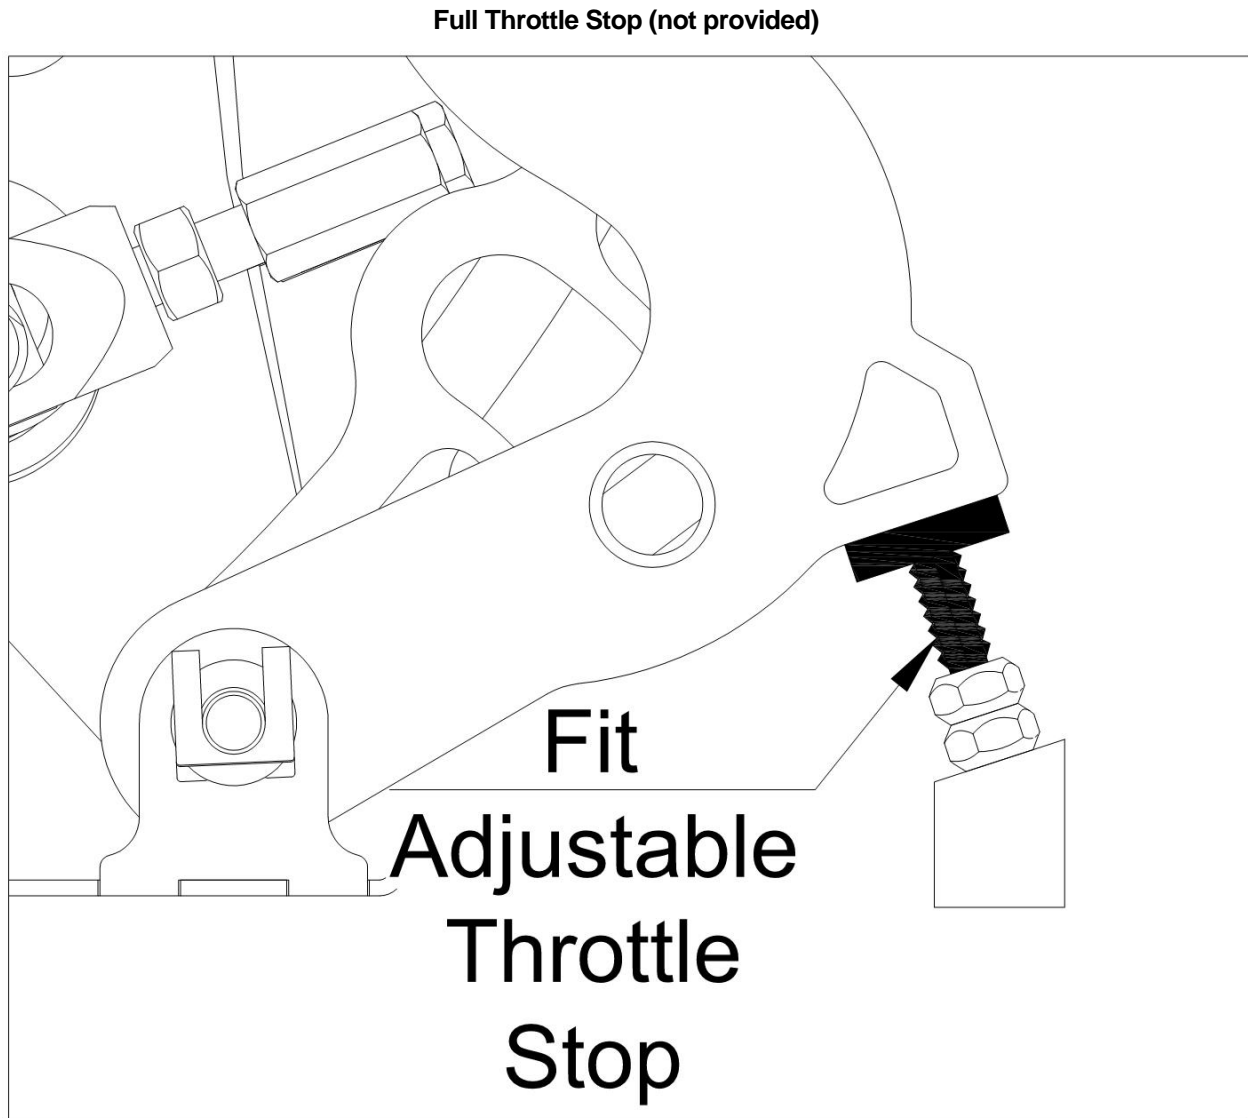

Figure 9 Throttle Stop placement
- Install a permanent Full Throttle Stop (to suit) as shown in Figure 9. This will eliminate twisting of the throttle lever in the depressed position.